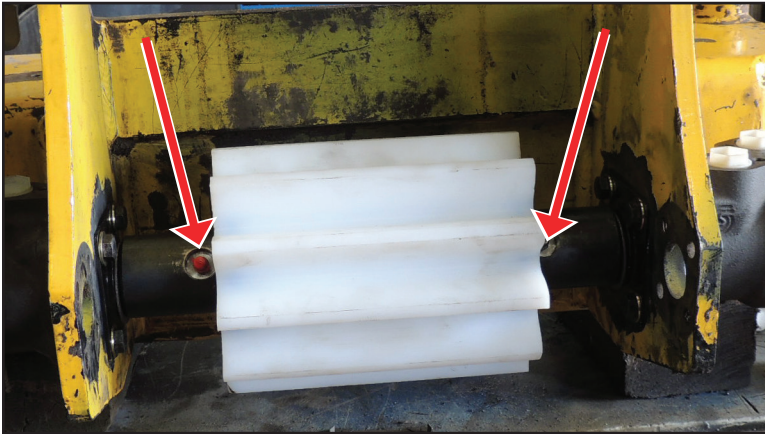

Figure 18
19. Grease the couplers on the gear with EP No. 2 lithium grease (Figure 18).